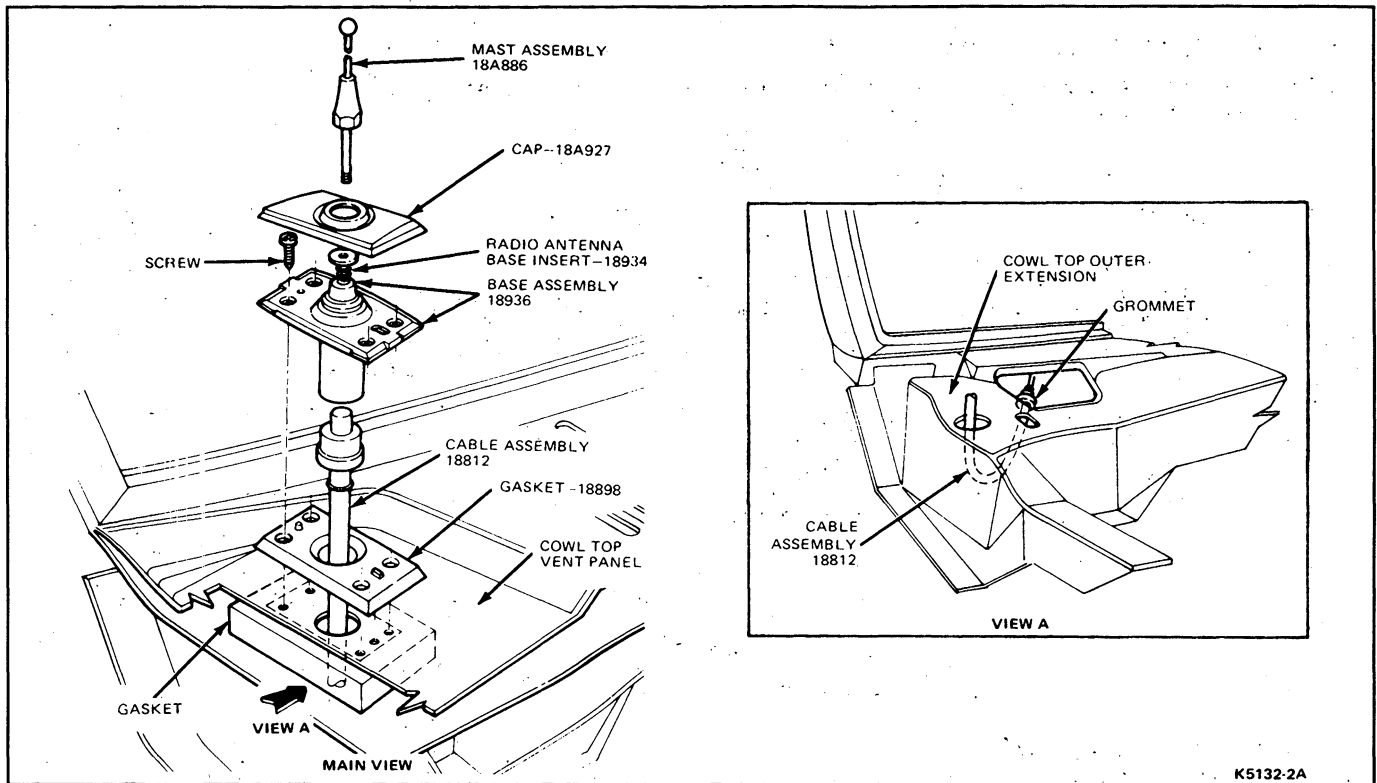

FIG. 1 Entertainment Antenna Installation—F-150 Through F-350, F-Super Duty, and Bronco
1. Remove four screws attaching the grille and speaker assembly to the instrument panel (Fig. 1).